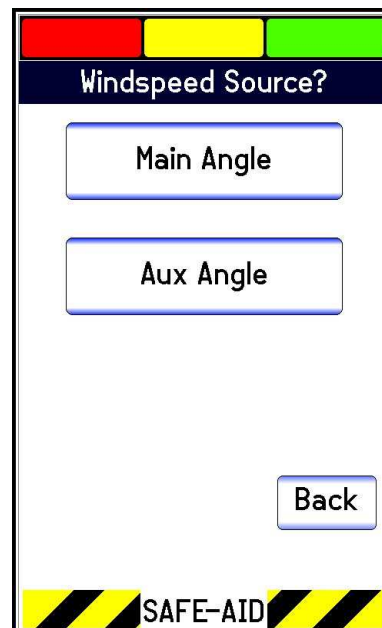

Figure 22
5. Enter the source A400 amplifier where the wind speed head is plugged in (figure 22) i.e. if the windspeed meter is plugged into the auxiliary amplifier press **Aux Angle**.